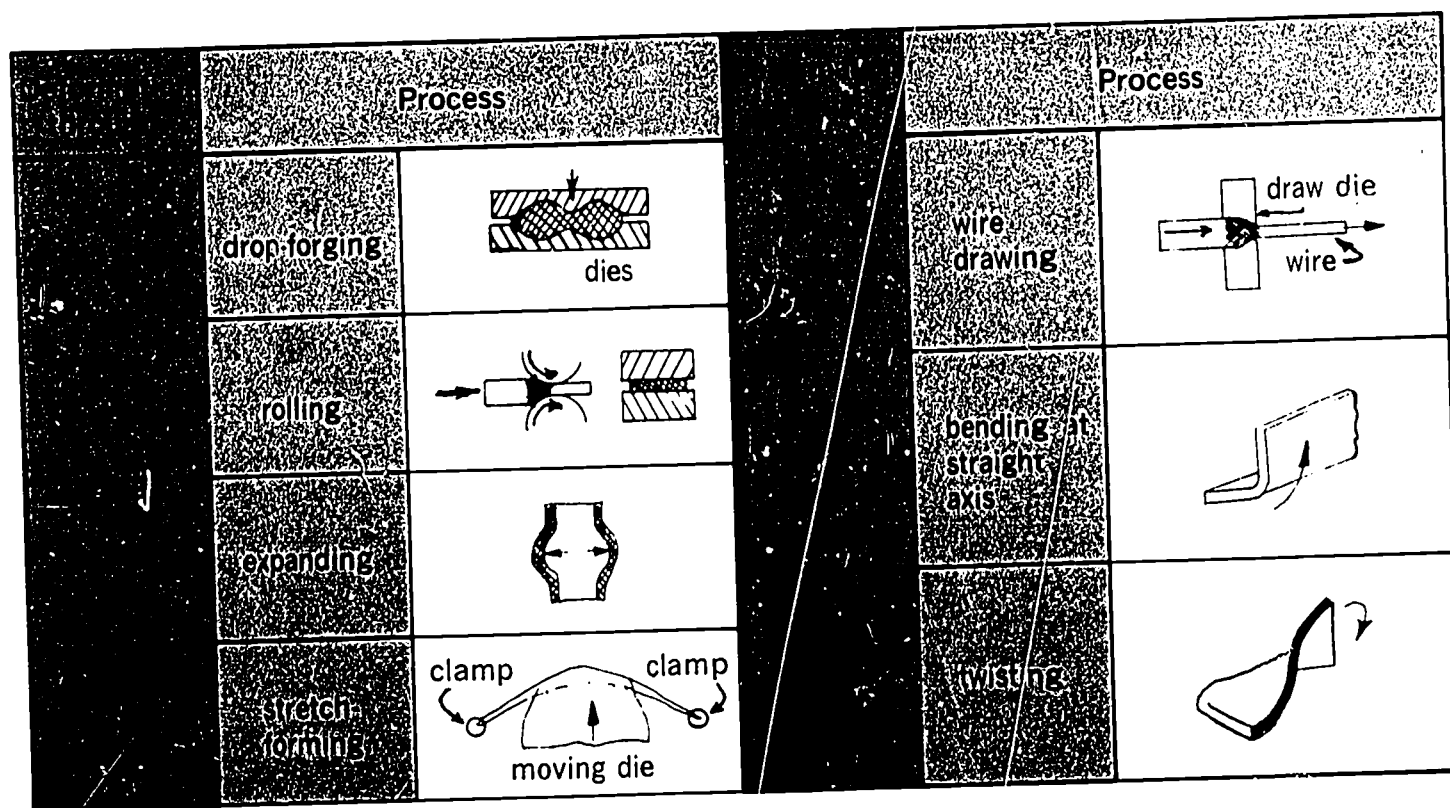

Fig. 51-2. This chart shows several kinds of compressing or stretching processes.
Compressing or stretching processes may be grouped according to the forces which change the shape of the material, Fig. 51-2. Some processes compress materials. Other processes stretch materials. Sometimes, a forming process may compress and stretch the material in the same process. *Forging* and *rolling* are examples of forming by compressing. *Expanding* and *stretch-forming* are processes that use *tension* (stretching). *Drawing*, *bending*, and *setting* processes combine the forces of compressing and stretching.
1. In Fig. 51-2, there is a chart that shows several kinds of *compressing* or *stretching* processes. What products can you find around your school that have been made by each of the processes shown in the chart? (Try to think of others than the ones shown on the chart.)